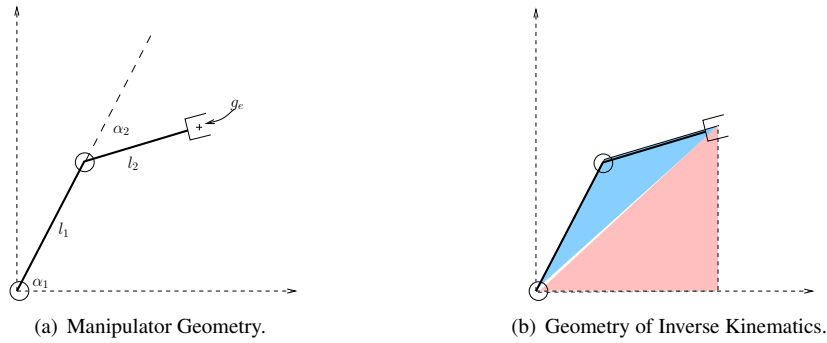
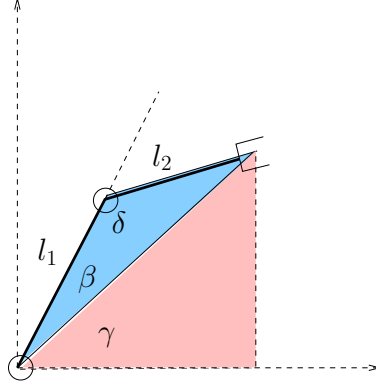

Figure 1: Simple planar manipulator with two revolute joints.
Figure 3: Depiction for resolving the inverse cos and inverse tangent relationships.
Problem 1. (10 pts) The *inverse kinematics* of a manipulator are the equations that provide the manipulator joint angles given the end effector configuration. In this simple problem, let's consider that our only interest is in the position of the manipulator end-effector (orientation is not important) for the manipulator in Figure 1
- (b) The inverse kinematics for this can be solved using the law of cosines and properties of right triangles, as hinted at in Figure 1(b). Suppose that $l_1 = 1$ and $l_2 = 0.5$, solve for the inverse kinematics given that $d_e = (1.3595, 0.2113)^T$. The inverse kinematics essentially asks: given the end-effector configuration of $(x_e, y_e)^T$, what are α_1 and α_2 ?
Looking at the triangle from Figure 1(b), and the manipulator geometry from Figure 1(a), once can define a collection of angles which require both the law of cosines and the inverse tangent function to solve for. These angles and their meaning can be found in Figure 3. According to the figure, we see the following relationships,
Note that the solution to α_2 has a negative factor in it. That is because the angle that is computed is an absolute value of the angle. To figure out the sign, we have to compare against the zero reference line (the dotted line in Figure 3) and the right hand rule. In this case, the angle turns out to be negative. One must be careful since there are actually two solutions to the acos function, one positive and one negative (thus another solution could be $\alpha_2 = \pi - \delta$ and $\alpha_1 = \gamma - \beta$).